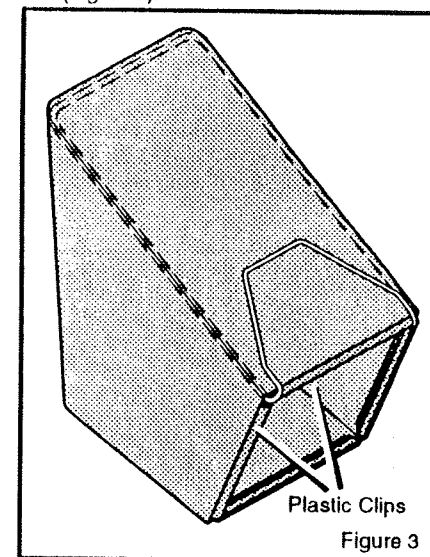

Figure 3
3. Attach the **plastic clips**, on all four sides of the grass bag, to the frame assembly (Figure 3).